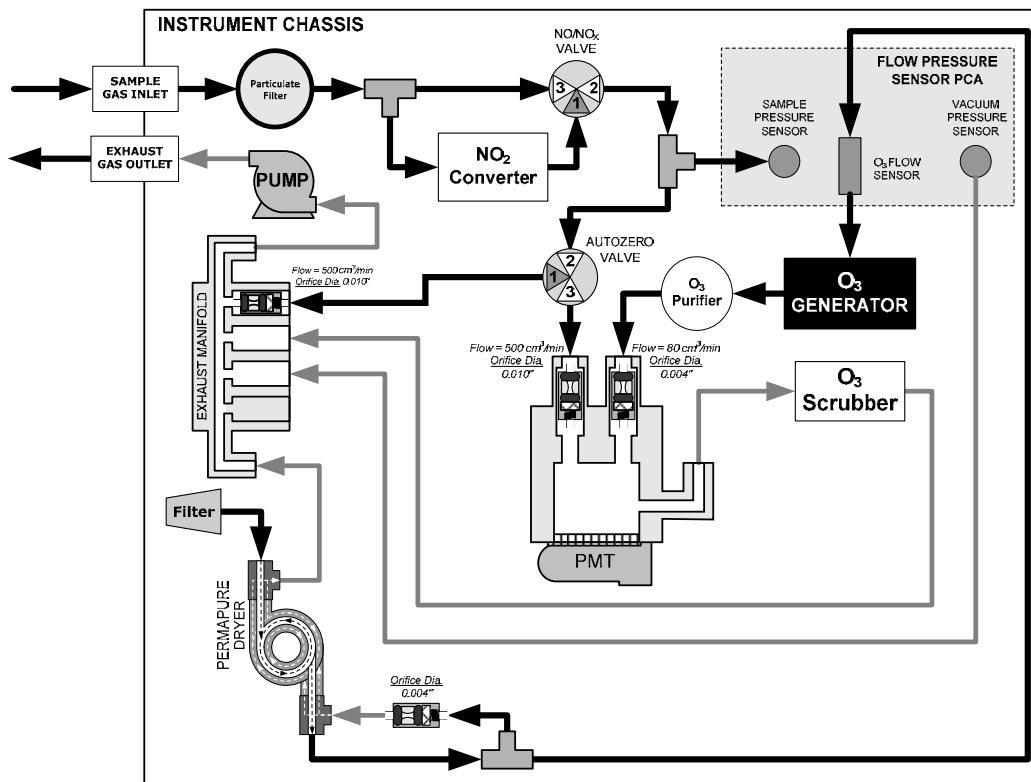

Figure 12-6: Basic Internal Gas Flow for Basic T200 with Internal Pump
- An optional internal pump pneumatically connected between the vacuum manifold and the exhaust outlet. (see Figure 12-6).